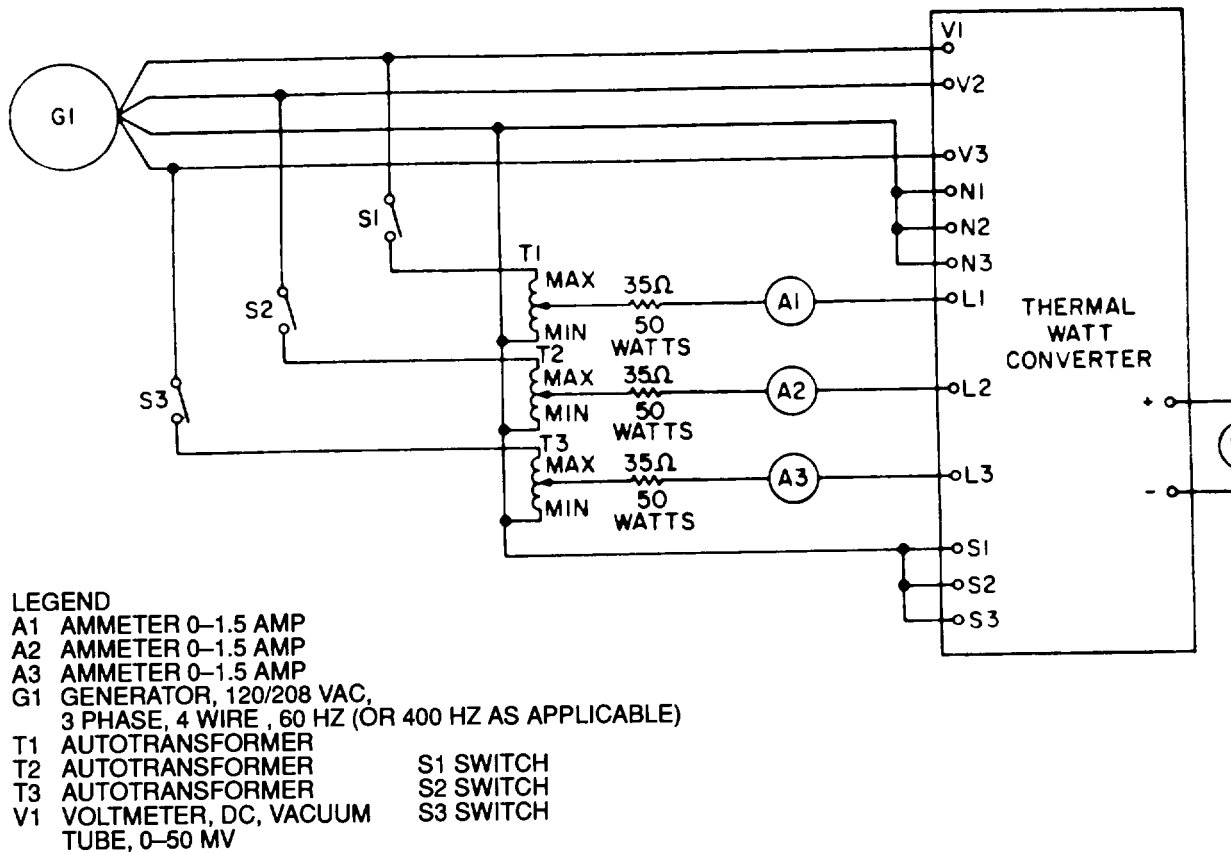

Figure 3-55. Thermal Watt Converter Circuit Schematic
- (d) If readings vary more than 1.33 percent, install thermal watt converter in a test setup using figure 3-55 as a guide.